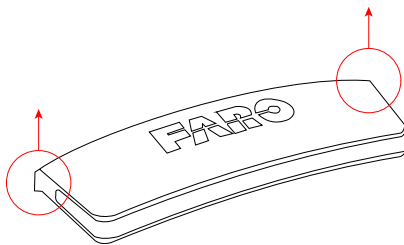

Figure 4-10 Pull here to remove
2. Remove the status indicator by grasping it with two fingers on the corners shown in Figure 4-10 and pulling vertically.